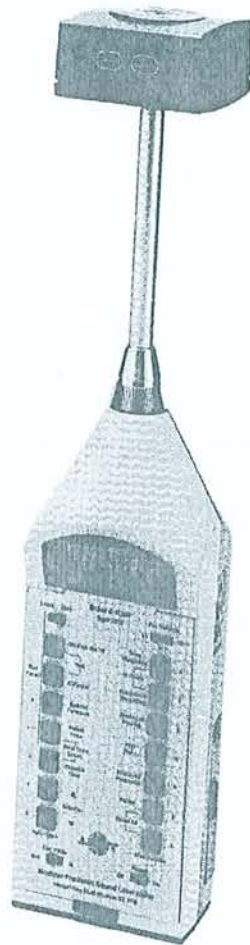

Fig.2.1 Positioning the calibrator on a Modular Precision Sound Level Meter Type 2231
2. Press the microphone into the opening in the calibrator, see Fig.2.1.